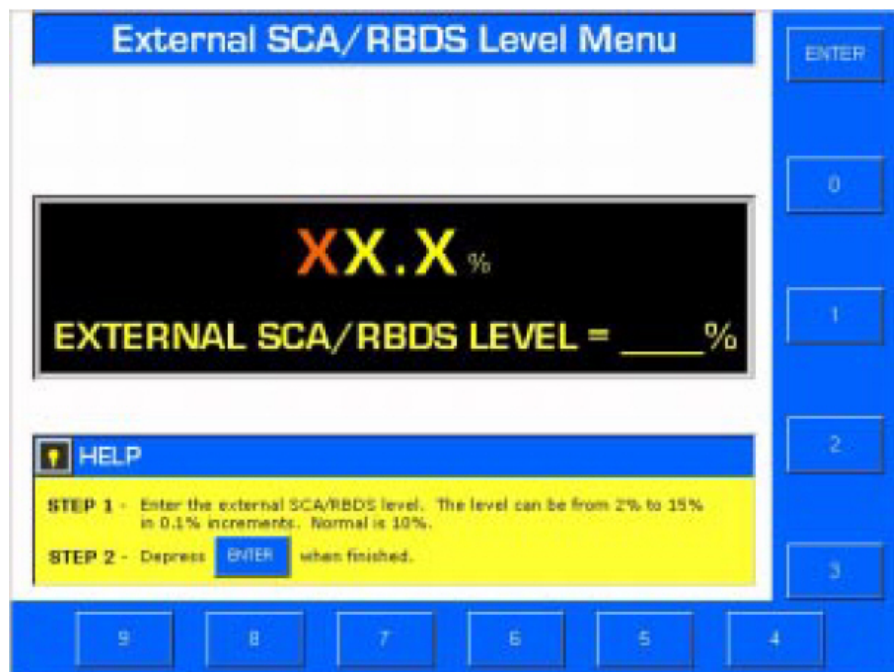

Figure 3-36. EXTERNAL SCA/RBDS LEVEL MENU
A. Depress EXT SCA/RBDS LVL. The External SCA/ RBDS Level Menu will appear (refer to Figure 3-36).